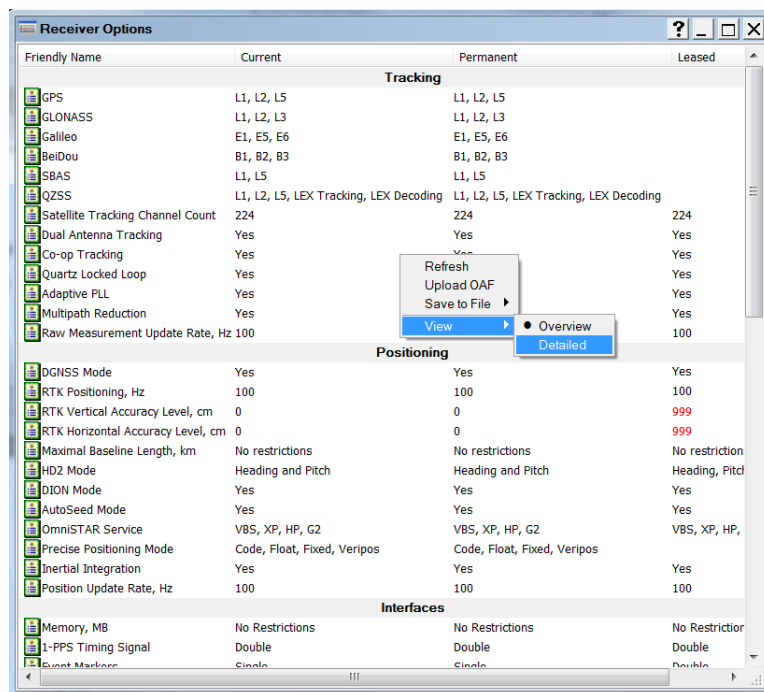

Figure 57: Additional OAF Details
10. To view additional OAF details, right-click in the **Receiver Options** screen and select **View ▶ Detailed** (Figure 57).